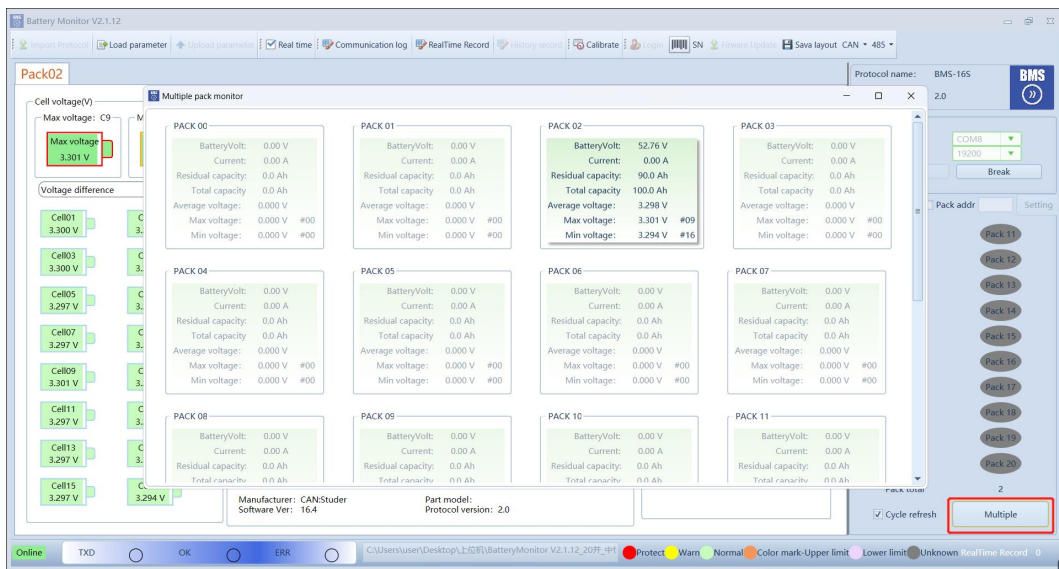

Figure 8-4
- 3) On the upper monitor interface, you can click “Multiple” to view each group of package data, Figure 8-4